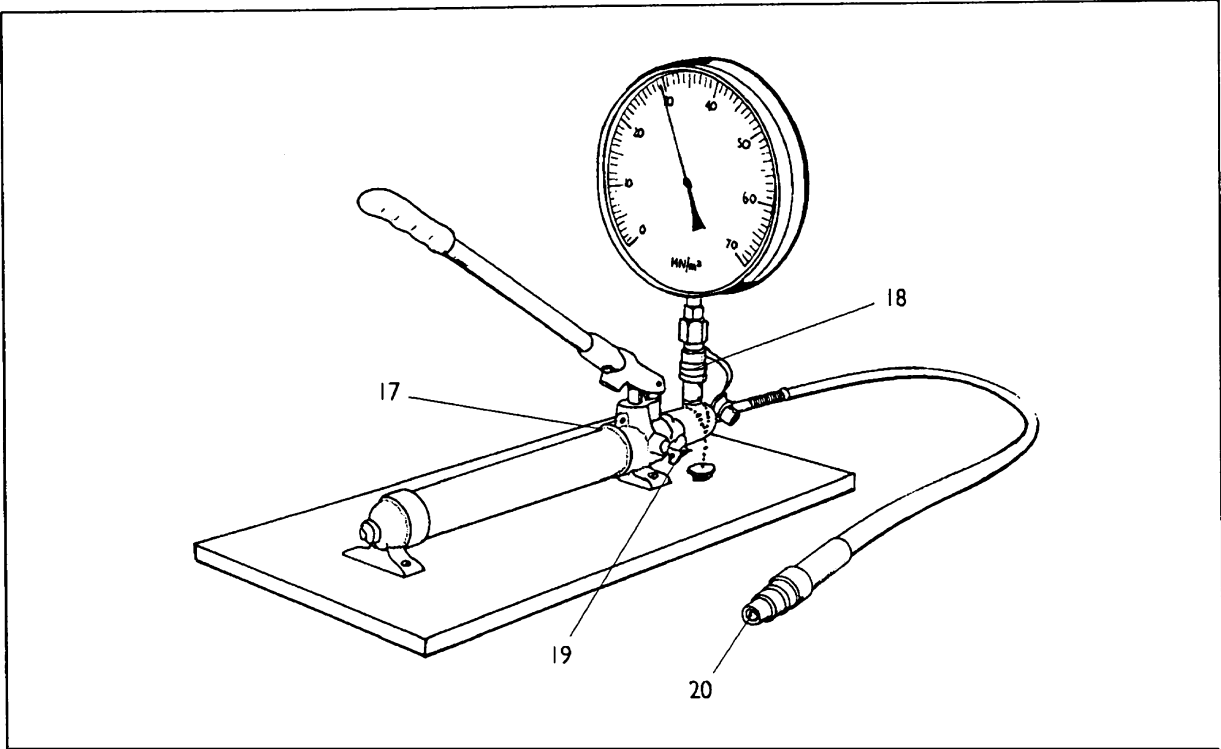

Figure 1 Hand-operated Pressure System 70-5000
- 1.1 This unit (*Figure 1*) comprises a small reservoir, hand pump with quick release connector (for pressure gauge) and pressure gauge. A length of high pressure hose is supplied for connection to the cell by means of a quick release mechanism (20).